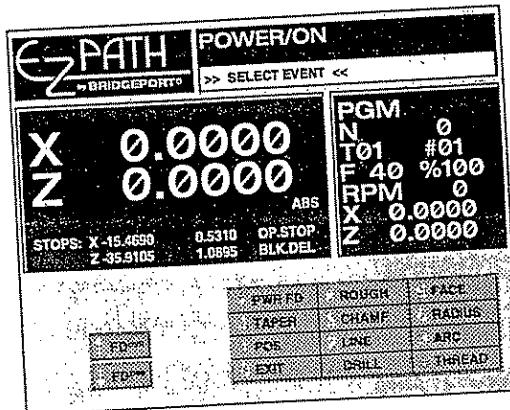

Figure 3-5
- 3) Press the **[2]** **DO EVENT** key. A screen as shown in Figure 3-5 will appear.